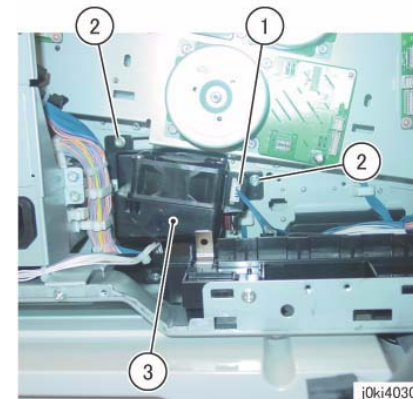

Figure 3 Remove the Rear Bottom Fan
10. Remove the Rear Bottom Fan. (Figure 3)